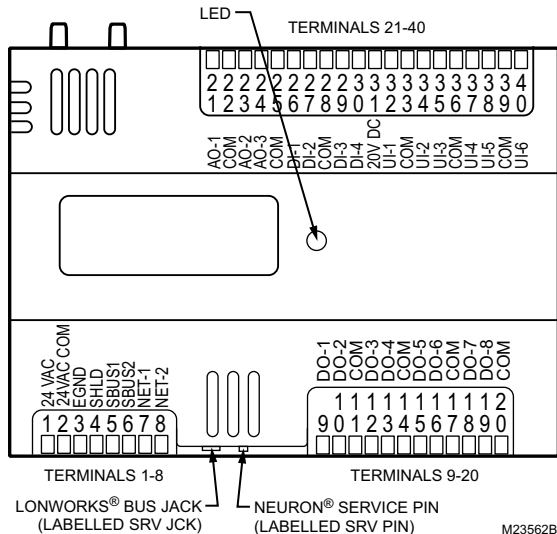

Fig. 25. LED, service pin, and network connection locations.
Refer to Fig. 25 and the following text for startup information.
- To send the Service Message from the controller, press the NEURON® Service Pin pushbutton on the controller (see Fig. 25 above, and Fig. 16 and Fig. 17 on page 14). This button sends out the Service Message when it is pressed, regardless of the controller’s current mode of operation.